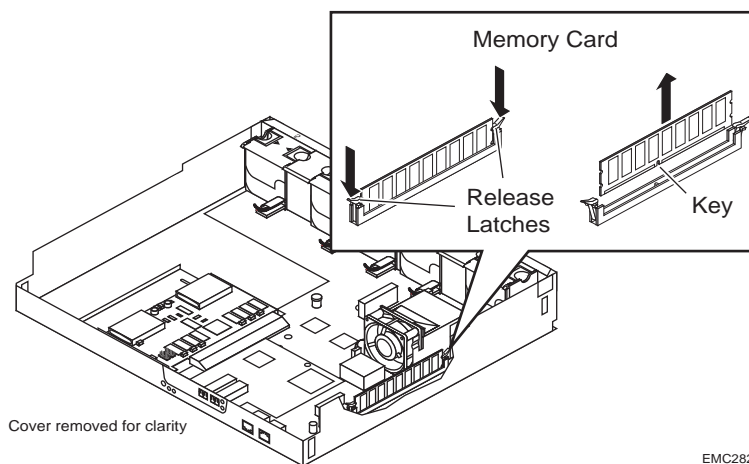

FIGURE 25. Removing the Memory Card from the Motherboard
- b.** Touching only the outside edges, pull the memory card straight up and out of the connector (Figure 25).